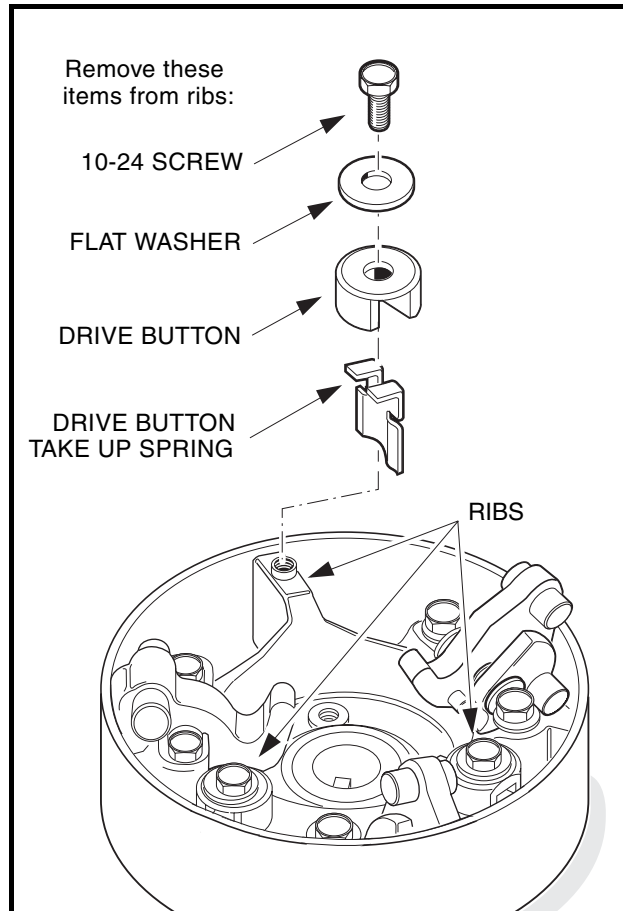

Figure 17-8 Drive Button Mounting
4. Remove the drive buttons (Figure 17-8, Page 17-8).
- 4.1. Remove the screws, flat washers, drive button take-up springs, and drive buttons as shown (Figure 17-8, Page 17-8).
14. Compress each take-up spring and install the drive button over the rib and take-up spring (**Figure 17-8, Page 17-8**).